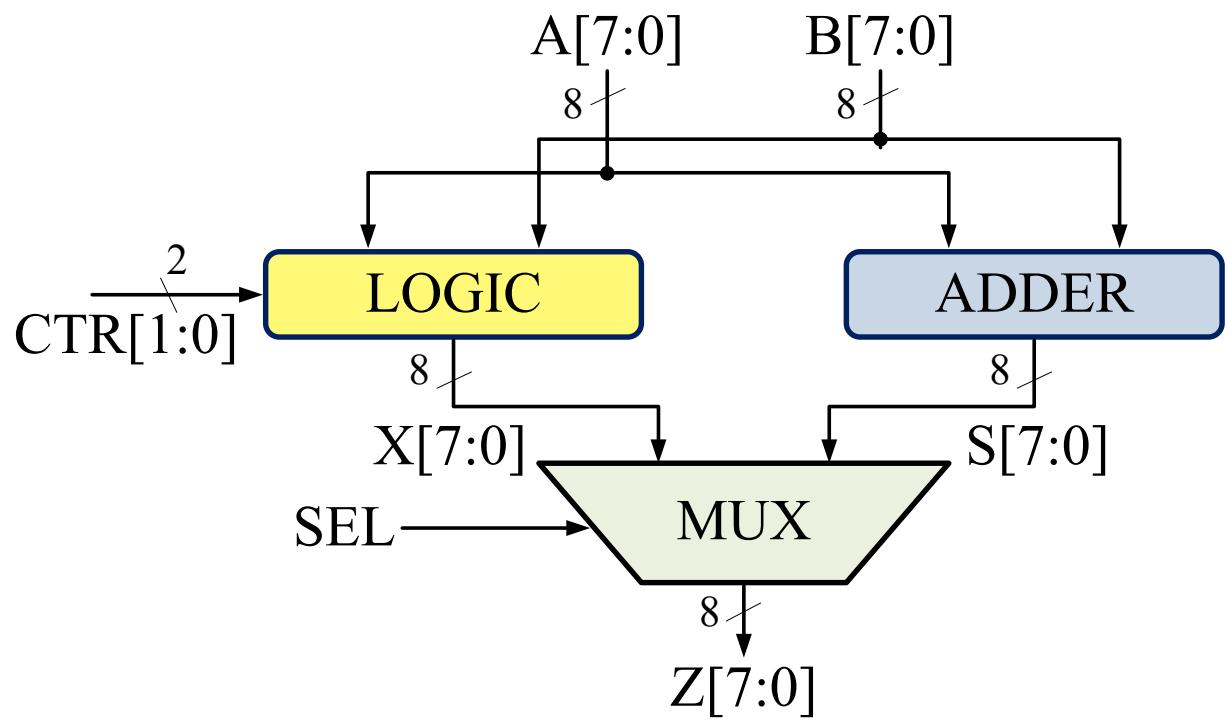

Figure 1 – Block Diagram of the 8-bit ALU
The block diagram of the 8-bit ALU that you will design in this project is shown in Figure 1. It consists of three building blocks: a logic block, an adder and a multiplexer. This system has two 8-bit input signals *A* and *B*. These signals are the inputs of the logic block and the adder. Logic block performs a logic function determined by the control signal *CTR*, over the inputs *A* and *B*. The adder performs the addition of the two inputs. Finally, the multiplexer selects the output signal *Z* of the ALU, as the output of either the logic block (X) or the adder (S), depending on the select signal *SEL*. The two blocks (logic and adder) will be described in details in the following sections.
- ❶ **Important!** Make sure that the naming of all of your pins in the design is *exactly the same* as given in this material. In other words, pin *A<7:0>* should be named *A*, and not: *a*, *x*, *a_in* or anything similar. Any differences from the defined naming will be penalized in the final grade. **Also please pay attention that in Cadence you should use '<' and '>' signs in the pin names not '[' or ']' signs.**
- ✓ **Important!** It has to be noticed that if $SEL = 0 \rightarrow Z[7:0] = X[7:0]$ and that if $SEL = 1 \rightarrow Z[7:0] = S[7:0]$ (see Figure 1).
- ✓ **Important!** The name of the top-level cell has to be exactly **ALU_8bit**. Furthermore, all the pins in the top-level cell have to be named exactly as given in Figure 1. The functionality of all the pins has to be as discussed in the instructions. Please **do not** use logically inverted pins, or you may use them but the logical function (looking from the outside) has to remain the same.